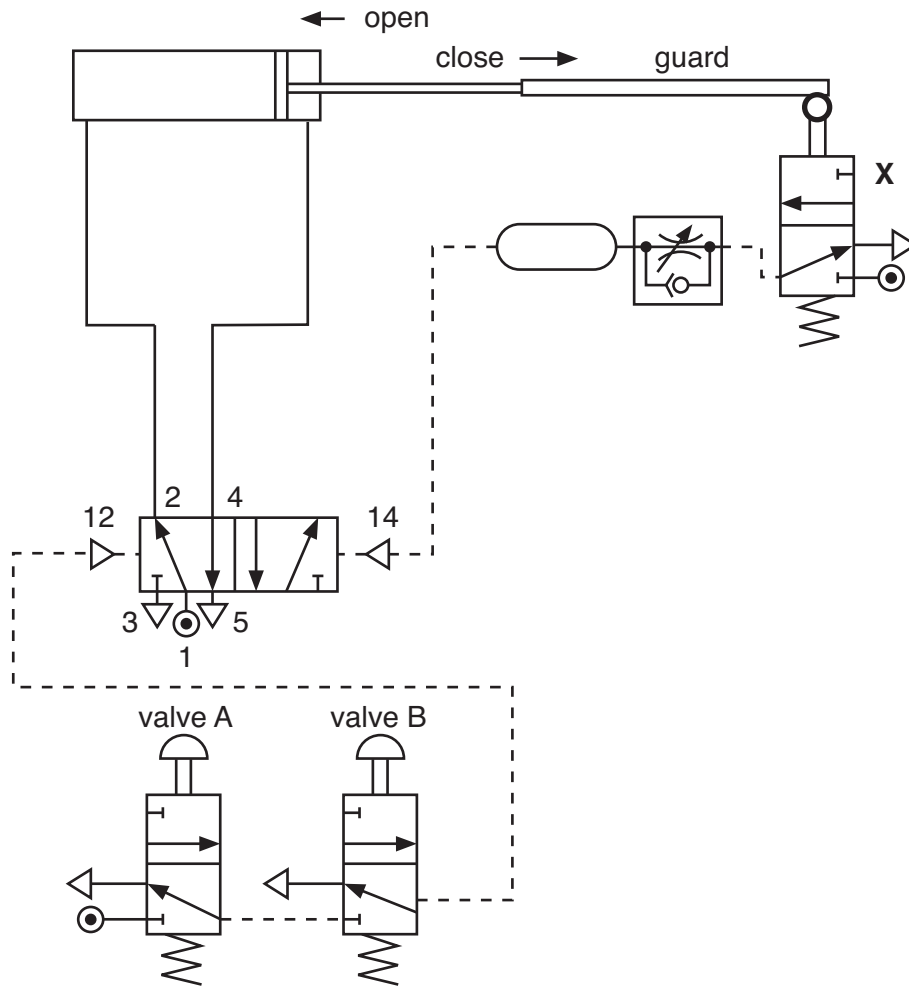

Fig. 10
6 Fig. 10 shows the pneumatic circuit for closing the guard on a hydraulic press.
- (a) The two valves in Fig. 10 form part of a safety system to protect the operator.
- (b) (i) State the name used for valve type **X** in Fig. 10. [1]
- (ii) In Fig. 10 valve **X** initiates the cylinder return cycle. Using notes and sketches, show an alternative method of achieving the automatic return of the cylinder that does not involve physical contact between the guard and a valve. [4]
- (c) The system shown in Fig. 10 has: